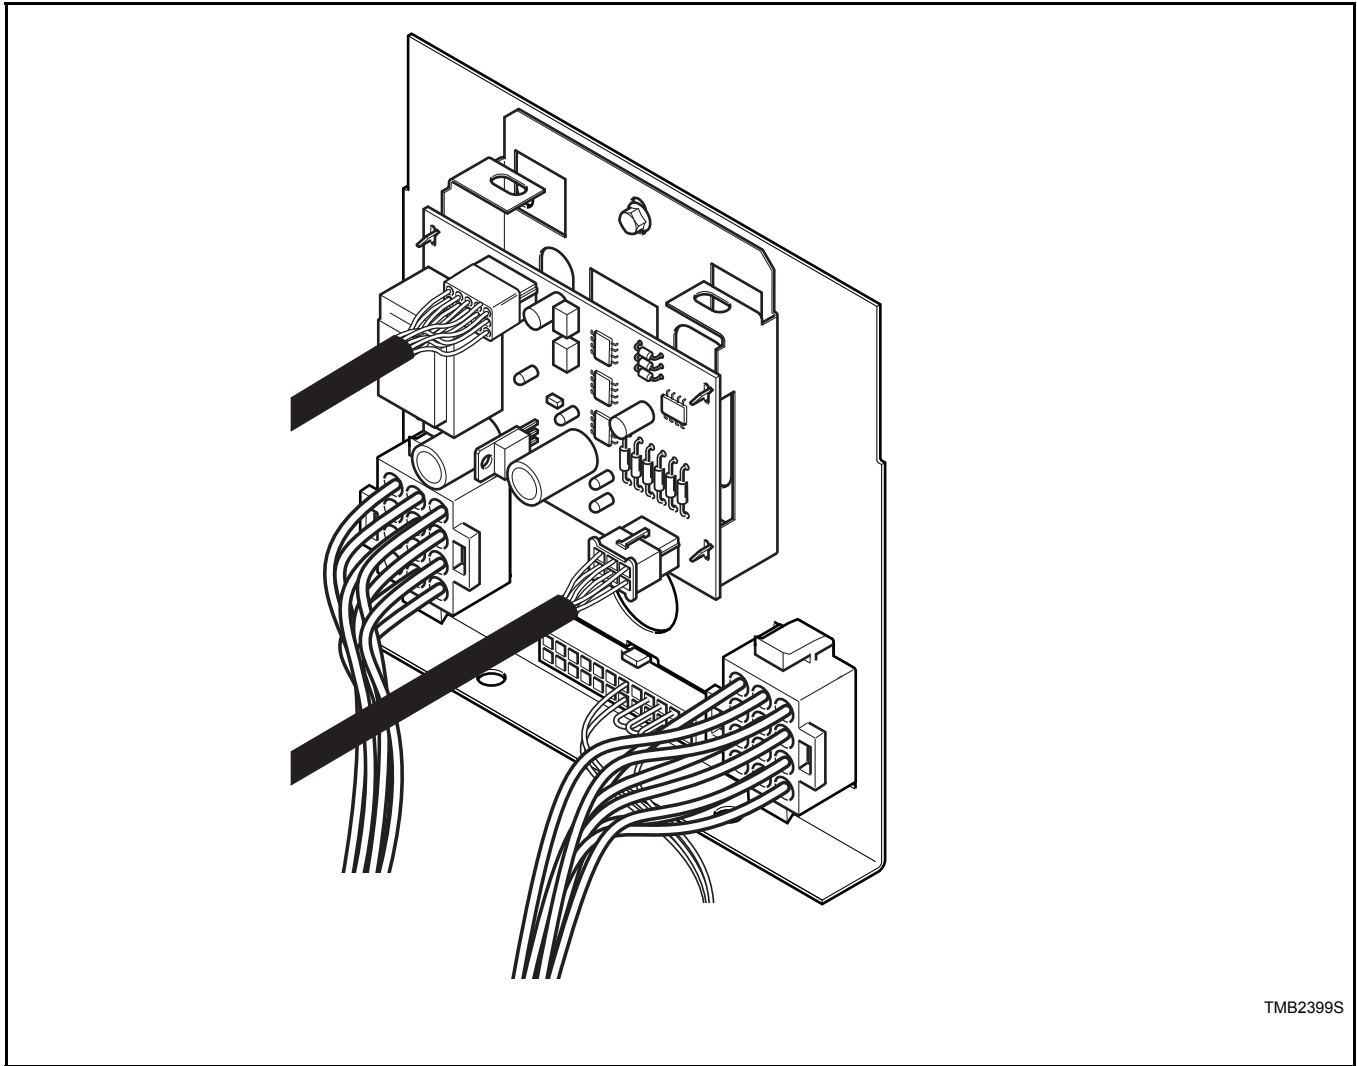

Figure 28
3. The harness from the control leads into a junction panel before reaching the slip ring assembly. Inspect junction panel for intermittent connections or unplugged harnesses (Refer to *Figure 28*).